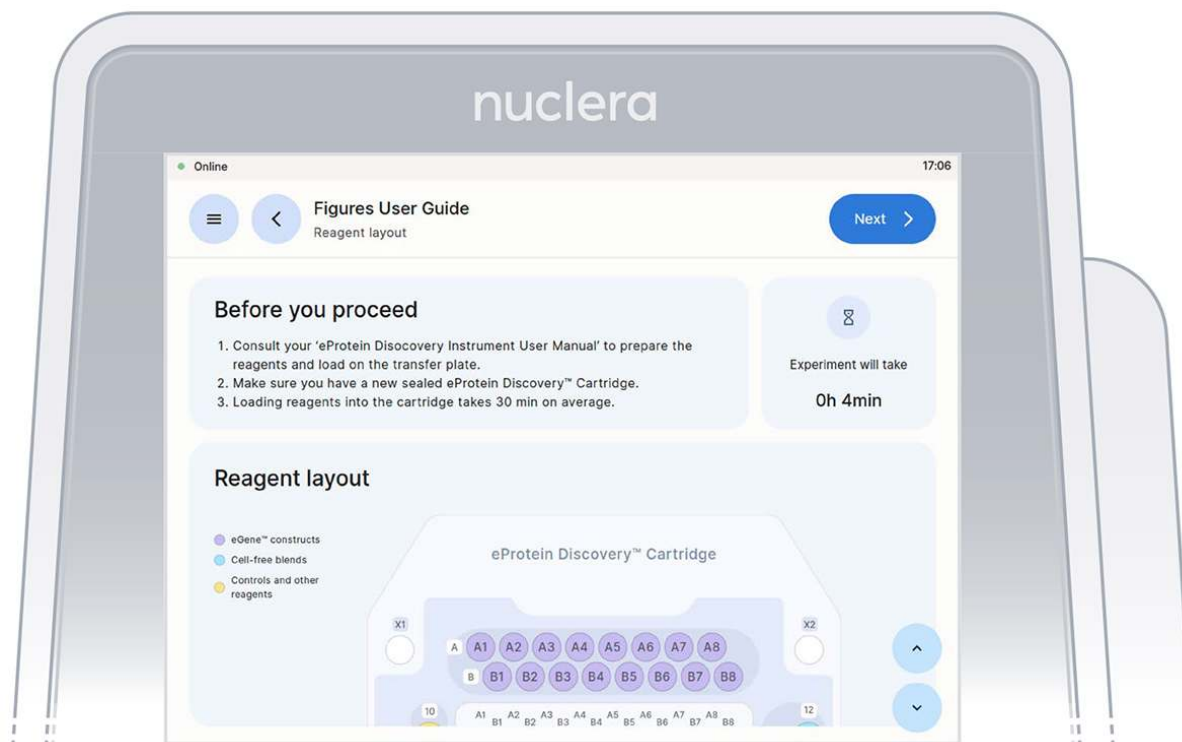

Figure 8: Instrument software welcome page with the list of finalized experiments
4. Read the Before you proceed section and press the [Next] button (Figure 8).